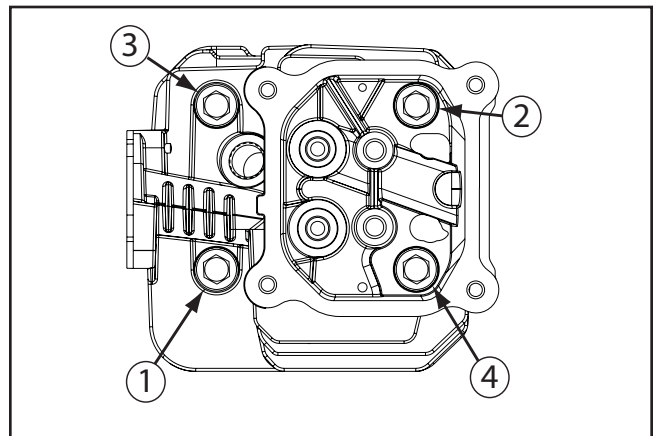

Figure 10-18. Torquing the Screws.
3. Match the two sides of the head together and finger tighten the four hex screws. See Figure 10-18.
4. Follow the torque sequence in Figure 10-18 and torque the head screws to 27.8 N·m (246 in. lb.).